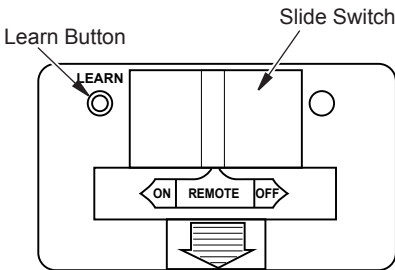

Figure 30 - Receiver
1. Place the slide switch on the receiver in the remote position (see Figure 30).